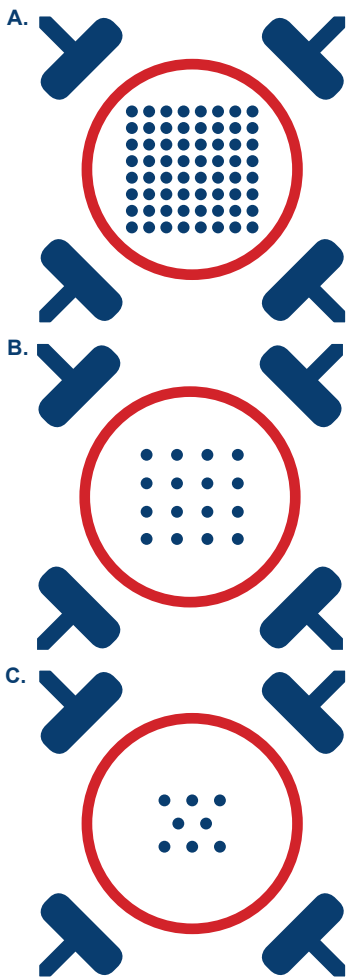

Figure 1: Drop Placement Diagram
18. Dispense a 5 µl droplet of the cell suspension (140,000 neurons) directly over the recording electrode area of each well of the MEA pre-coated with PEI solution. See Figure 1 for appropriate drop placement and size.